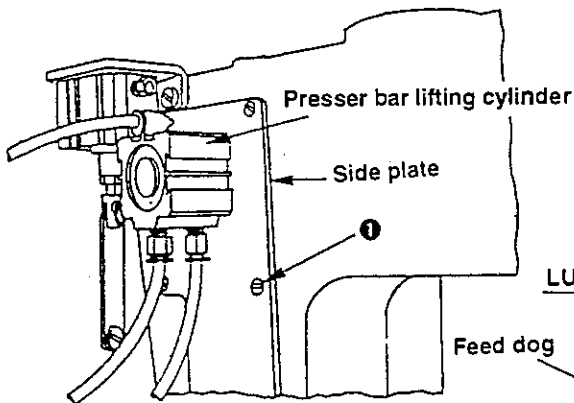

Fig. 4
<ol style="list-style-type: none"> 1. Set the stitch dial to "0" on the scale. 2. Loosen attaching screws ❶ in the side plate. (Fig. 4) 3. Remove the side plate. (Fig. 4) 4. Loosen clamping screw ❷ in the needle bar connecting rod. (Fig. 5) 5. Bring the needle bar to the lowest position of its stroke. 6. Align the center of the needle with the center of the slot in the throat plate. <ol style="list-style-type: none"> 7. Tighten screw ❷ in the needle bar connecting rod. <p style="margin-left: 40px;">(Caution) Tighten the screw with a tightening torque of 80 to 90 kgf.cm.</p> <ol style="list-style-type: none"> 8. Attach the side plate in place. <p style="margin-left: 40px;">(Caution) The feed amount of the needle is mechanically larger than the feed amount of the feed dog by 5%.</p>	<p>☆ If the needle entry is adjusted too close to the operator : The needle may interfere with the feed dog, resulting in needle breakage.</p> <p>☆ If the needle entry is adjusted too far from the operator When the needle comes out of the slot in the throat plate, the needle may interfere with the feed dog, resulting in thread breakage. The needle may come in contact with the feed dog during the reverse feed stitching, resulting in needle breakage.</p> <p>7' At this time, move the needle bar connecting rod to the right or left until the needle bar connecting rod is positioned approximately at the center of the play. If the needle bar connecting rod is not correctly positioned, an excessive torque may result.</p> <p>For the sewing machine equipped with an auto-lifter, attach the side plate following the steps of procedure described below.</p> <ol style="list-style-type: none"> 8. Raise the presser bar lifting lever. 9. Put hinge screw ❸ of the presser bar lifting cylinder in the forked section of the presser lifting lever. 10. Confirm that the bottom face of the knee lifter arm A is engaged with the presser lifting lever. 11. Attach the side plate in place.